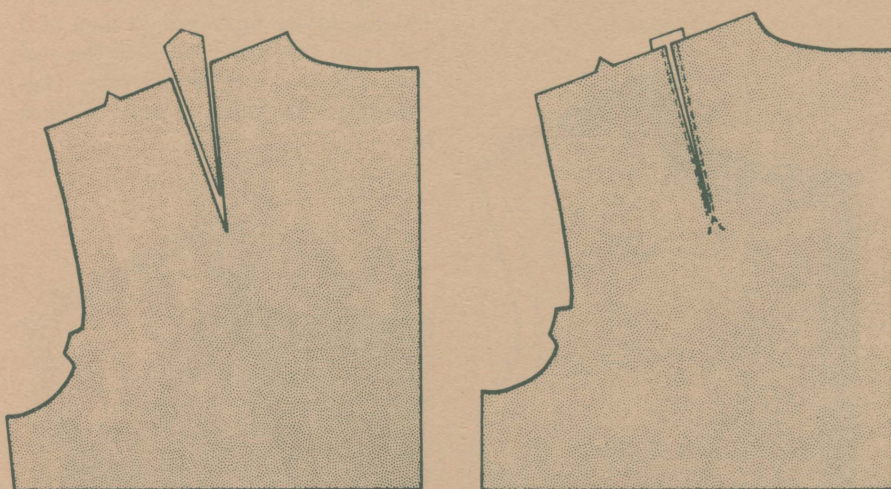

Figure 3. Abutted dart
- *Abutted Method*. Cut out dart entirely along the stitching line; pin edges to meet over a piece of seam tape slightly longer than the dart; stitch close to edges; zigzag at the point to reinforce (Figure 3).